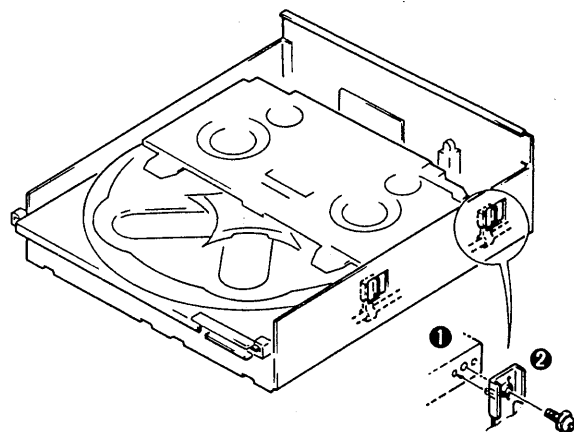

Fig. 4
5. After putting the boss of figure 4-② into the hole of figure 4-① to locate, screw the disc table to the guide bar retainer.